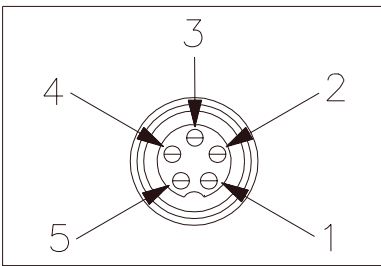

**Fig 2.** Microphone plug wiring
4. Feed the microphone cable through the housing, knurled ring and washer as shown Figure 2.
6. Be sure that the housing and the knurled ring of Figure 2 are pushed back onto the microphone cable before starting to solder. If the washer is not captive to the pin receptacle body, make sure that it is placed on the threaded portion of the pin receptacle body before soldering.